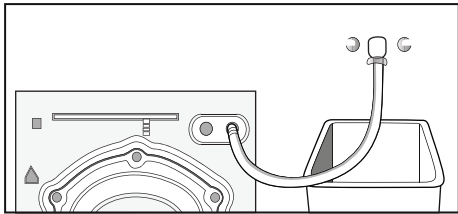

Fig7
**1:** Connect the water inlet hose, the angled connection attaches to the water inlet on the back of the washer-drier. (Fig 7)